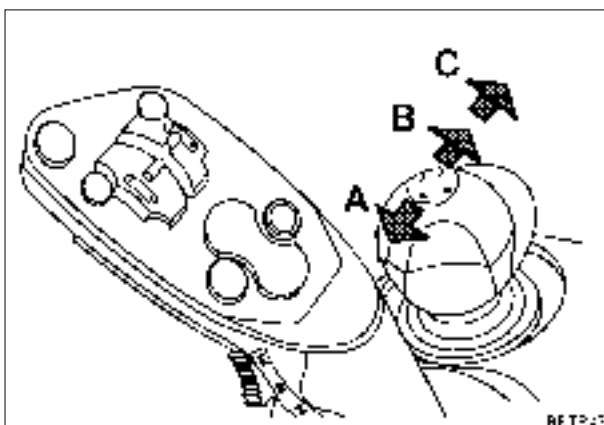

Fig.183
- Move crossgate lever into floating position (see OPERATION Fig. 183).
- Move the selection lever to **DW** (DA).